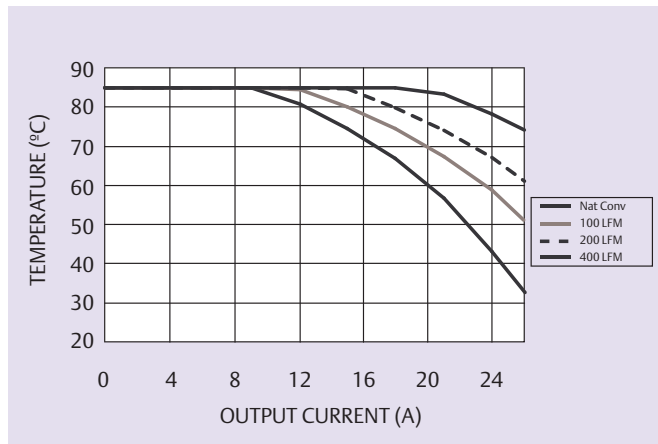
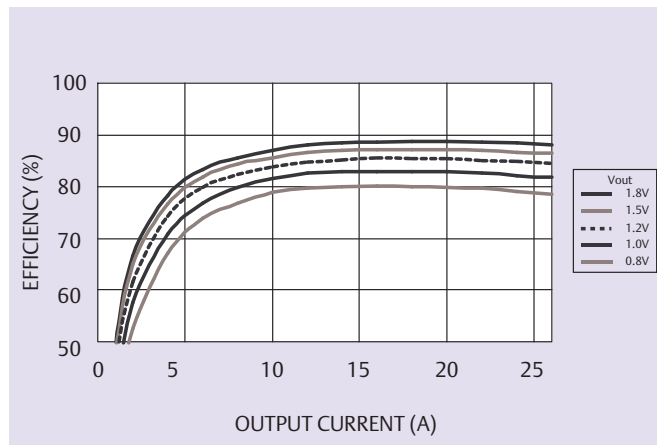

Figure 1 - Safe Operating Area
Figure 4 - Efficiency vs Load Current
- See Figure 1 for safe operating curve of the PTH12030W and Figure 4 for safe operating curve of PTH12030L.